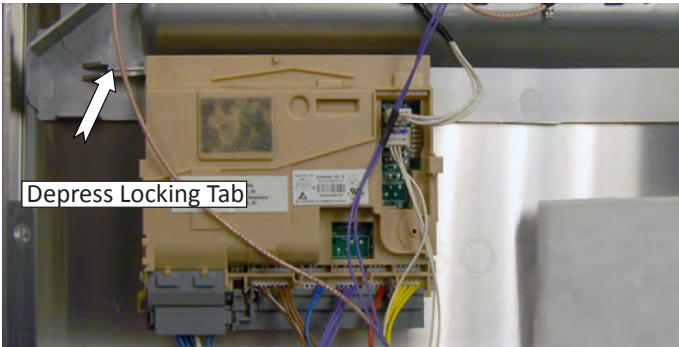

Figure 1 - Depress Locking Tab
4. Depress the locking tab, see Figure 1